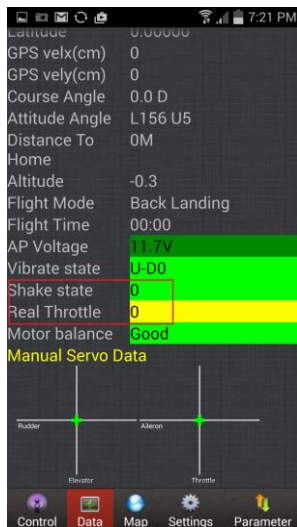

Figure 49
- **Mobile ground station:** open the mobile ground station and click “Data”, as shown in Figure 49.